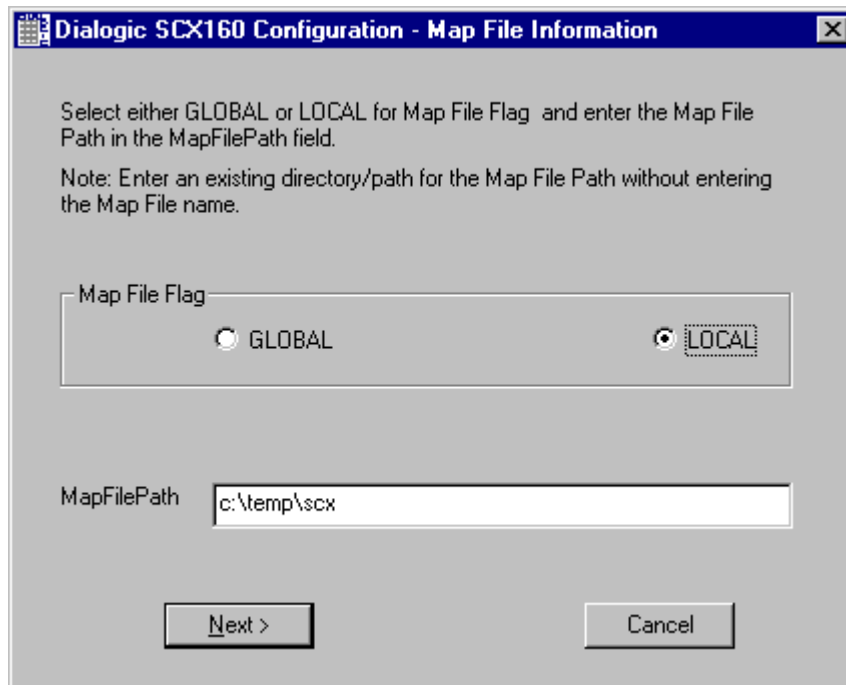

Figure 41. Map File Information Window
3. Select either **GLOBAL** or **LOCAL** for the *MapFileFlag* and enter the *MapFilePath* in the space provided (*Figure 41. Map File Information Window*).
11. Enter the name of the Node and enter an existing directory/path for a backup MapFile. This directory will have a copy of the MapFile and will be used in case the original MapFile is not accessible. See *Figure 41* for an example of the MapFile Information Window.